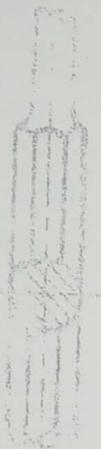

Figure 5
Figure 5 external threads
- 4/2** (b) Write down the drawing conventional representation given by figures 5 and 6 shown above.
1.3 Label the type of section view given by Figure 5, 6, 7 and 8 bellow. (4 marks)